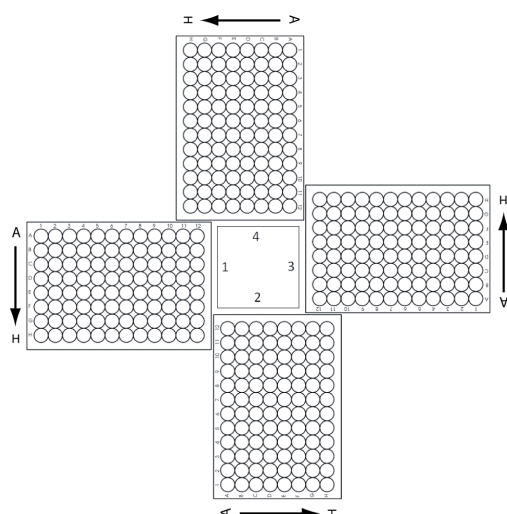

Figure 4 Agilent Labware MiniHub plate orientation.
- 12 Load the Labware MiniHub according to Table 24, using the plate orientations shown in Figure 4.
29 Load the Labware MiniHub according to Table 27, using the plate orientations shown in Figure 4.